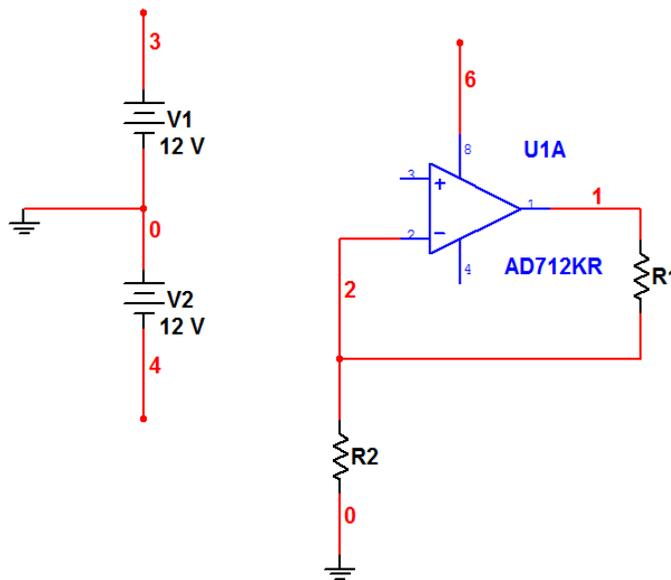

Figure 8. Wire the Components
2. Copy the existing ground. Select the ground symbol and press **<Ctrl-C>** on your keyboard. To paste the ground, press **<Ctrl-V>** below the R2 resistor (as seen in Figure 8).
3. Complete the wiring as shown in Figure 8. Do not worry about the labeled numbers on the wires (also called nets).